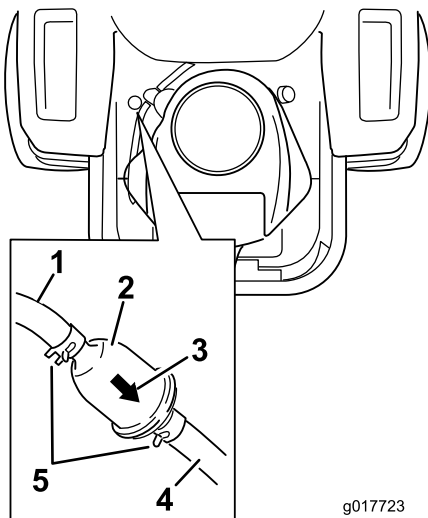

Figure 44
4. Raise the seat and locate the fuel filters as shown in Figure 44.
7. Install a new filter with the flow direction arrow coming from the fuel tank and pointing to the engine. Move the hose clamps close to the filter (Figure 44) to secure it in place.